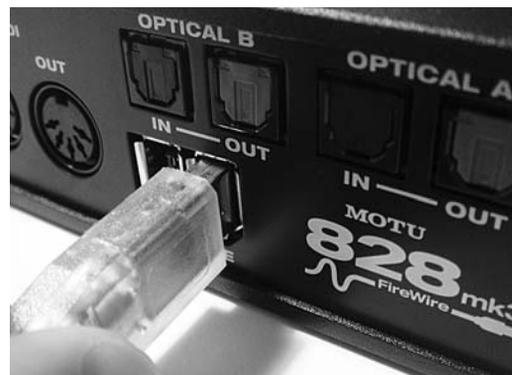

Figure 4-1: Connecting the 828mk3 to the computer.
- 1 Plug one end of the 828mk3 FireWire cable (included) into the FireWire socket on the computer as shown below in Figure 4-1.
- 2 Plug the other end of the FireWire cable into the 828mk3 I/O as shown below in Figure 4-1.